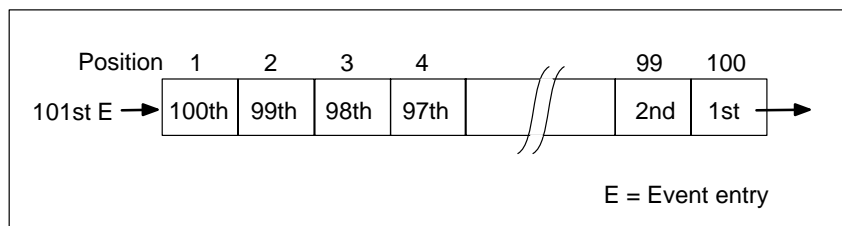

Figure 17-3 Organization of the Entries in the Diagnostic Buffer
**Organizing the Diagnostic Buffer** The diagnostic buffer is designed as a cyclic buffer for a maximum of entries dependent on the module. This means that when the maximum number of entries is reached, the next diagnostic buffer event causes the oldest entry to be deleted. All entries then move back one place. This means that the newest entry is always the first entry in the diagnostic buffer. For the S7-300 CPU 314, for example, the maximum number of entries is 100 (see Figure 17-3).